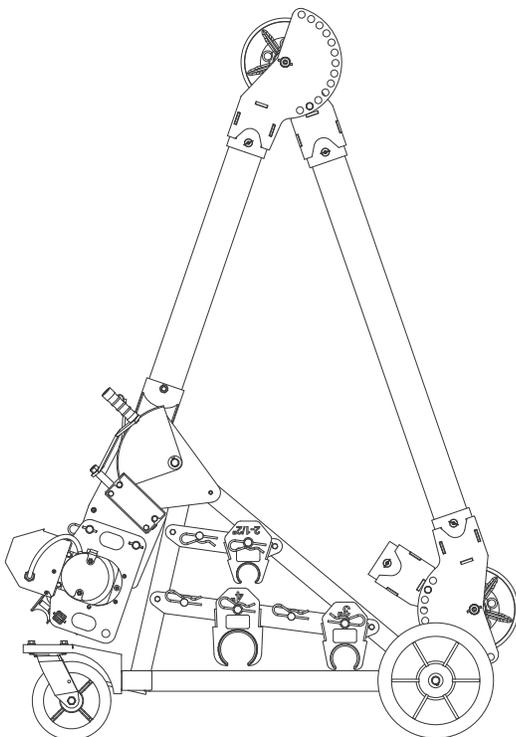

Figure 21: Transport Position
6. While supporting the forward boom, unlock the elbow unit and pivot forward boom towards the carriage until it touches the cross piece. (Fig. 21)